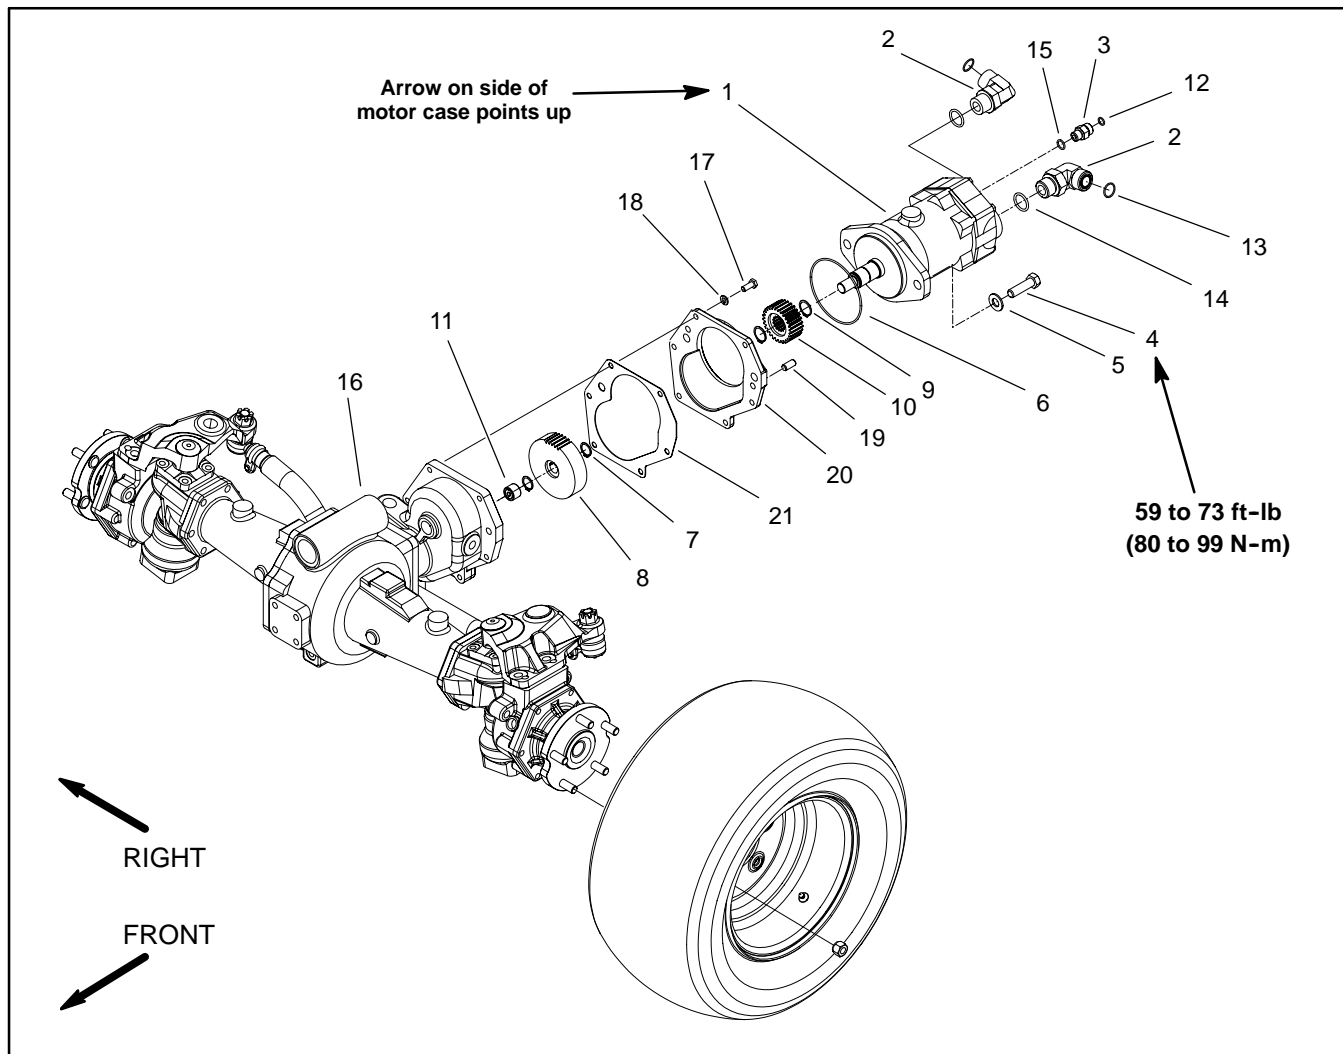

Figure 65
Removal (Fig. 65)
4. Remove motor from rear axle using Figure 65 as a guide.
Installation (Fig. 65)